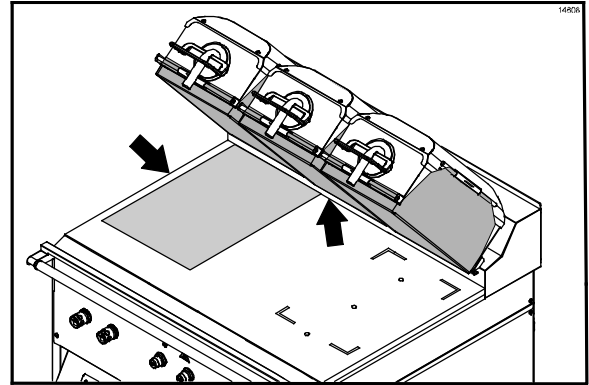

Figure 74
49. With the narrow side of the lower release sheet facing the back of the grill, hold the release sheet about one inch from the end of each side. Align the back edge of the release sheet with the back splash and the side edge of the grill. (See Figure 74.)